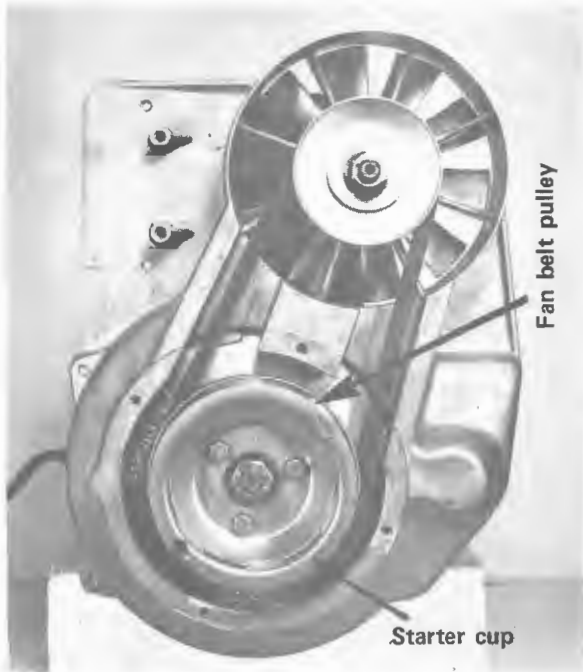

Fig. 5-10 Fancover, Starter Cup and Fan belt pulley installed
5.2.7 Fancover, Starter Cup and Fan Belt Pulley (See Figure 5-10)